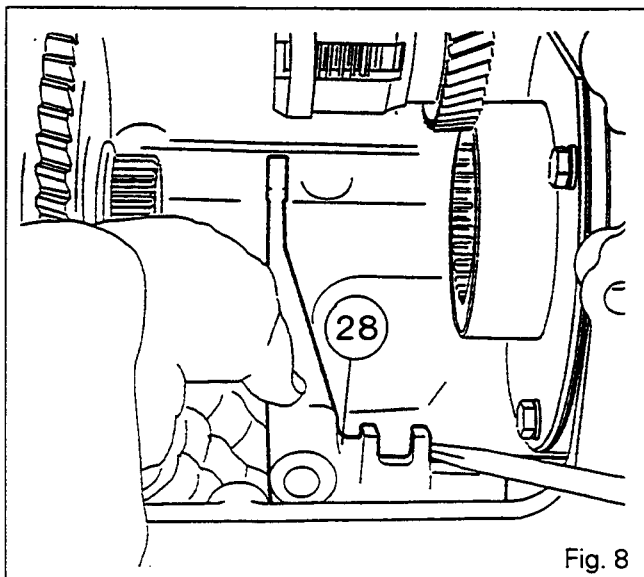

Fig. 8
16. Remove the fork (28) from the selector rail (7) (Fig. 8).